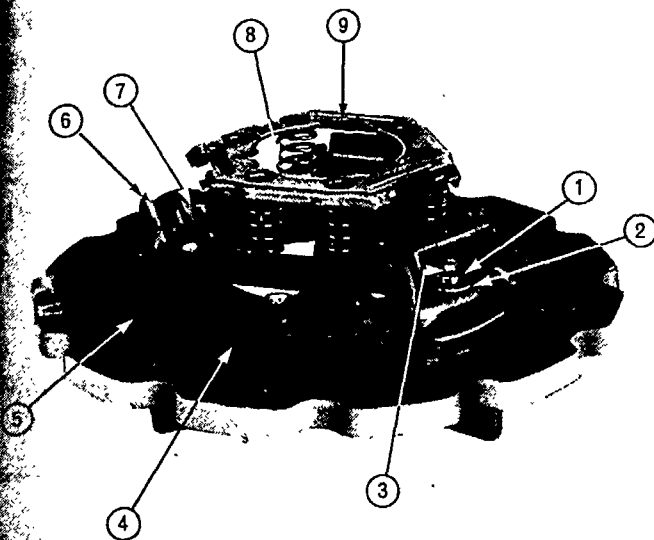

Figure 27
Place the appropriate washer on each screw and install the screws through the cover and into the pressure plate, Figure 27. Each adjusting screw must be fully screwed into the pressure plate to ensure adequate movement of the release levers during subsequent installation of the angle links.
4. Install the angle links, Figure 27, in the release levers.
5. Place the clutch coil springs in the cover and locate the spring retainer on the upper ends of the springs, Figure 27.